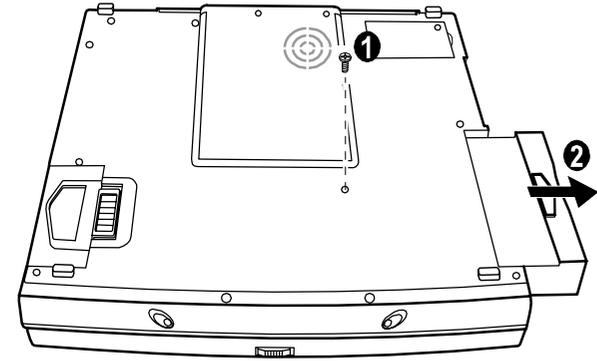

Figure 5-11. Removing the FDD/HDD Module
2. Slide the HDD/FDD module into the compartment and secure with one screw. (Refer to Figure 5-11 earlier.)